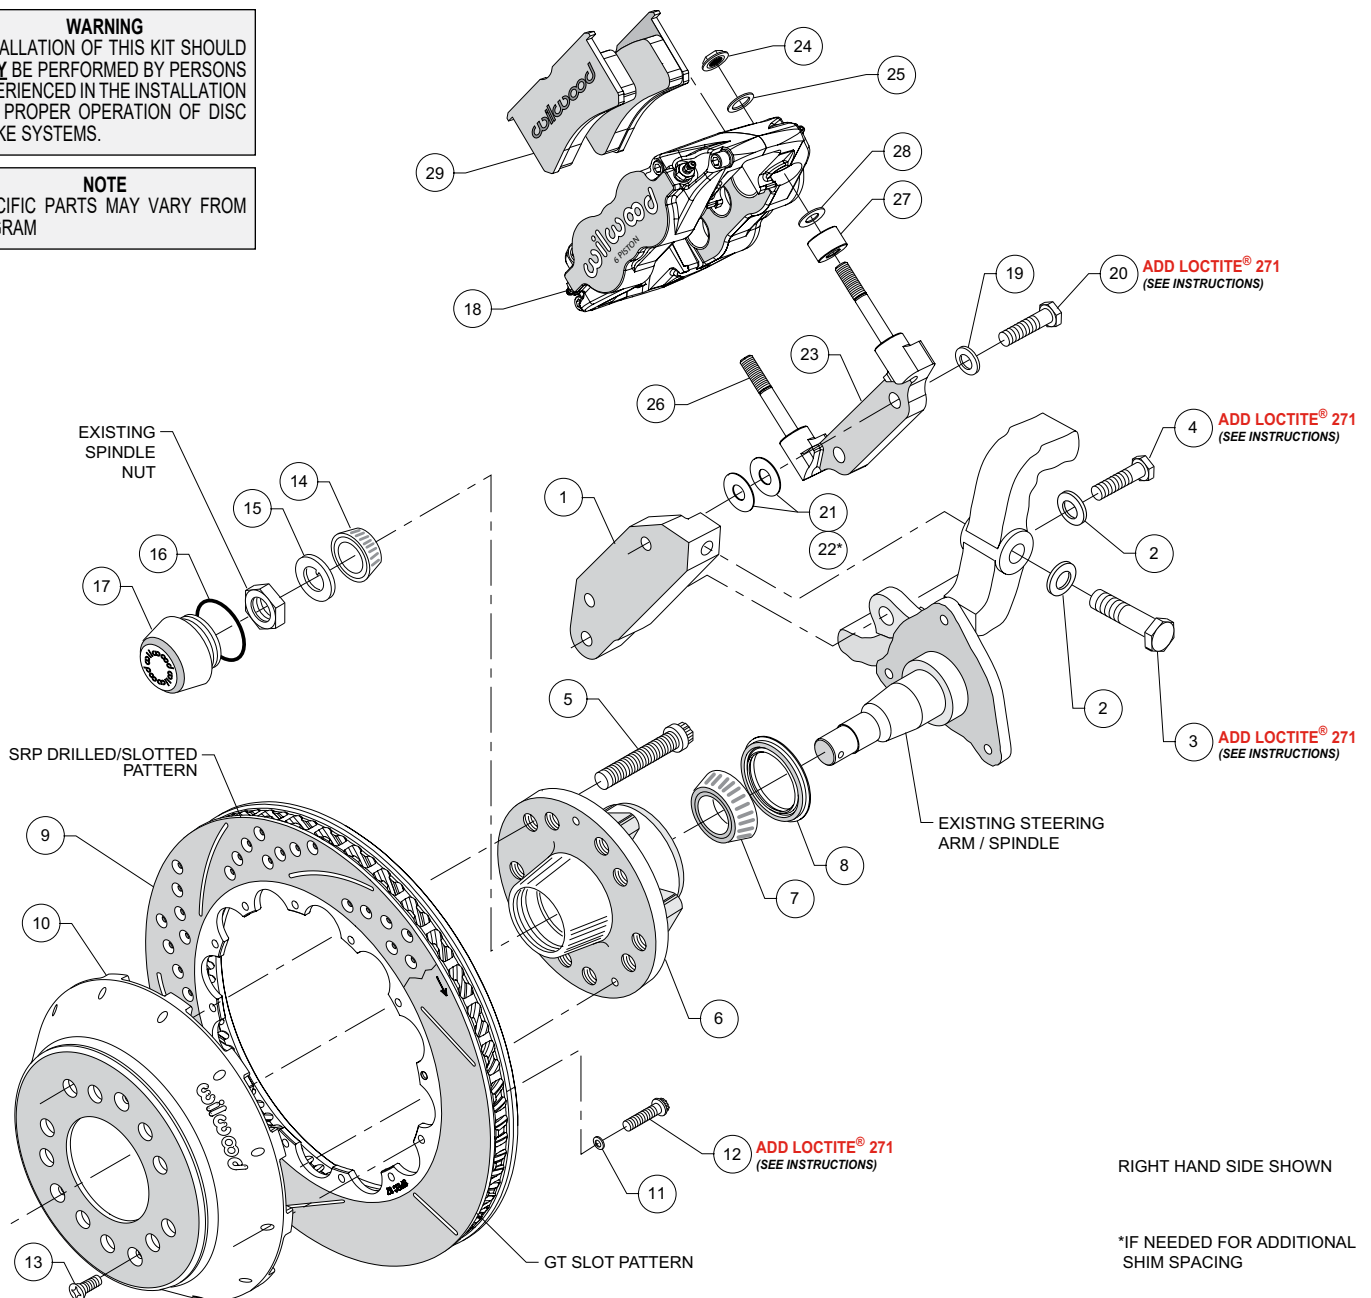
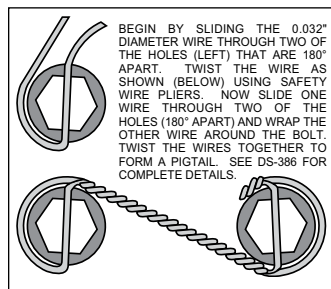

Figure 1. Typical Installation Configuration
Figure 3.
**NOTE:** Numbers in parenthesis refer to the parts list and Figure 1 on the preceding pages.
- Orient the spindle mount bracket (1), as shown in Figure 1, and attach to the spindle using bolt (3) and washer (2) in the upper hole, and bolt (4) and washer (2) in the lower hole. The bracket must fit squarely against the spindle mount points. Inspect for interference from casting irregularities, machining ridges, burrs, etc. Remove bolts one at a time, apply red *Loctite*® 271 to the threads, and torque to 77 ft-lb.
- Install wheel studs (5) into the hub (6), Photo 1. Torque to 77 ft-lb. **NOTE:** There are two five lug patterns in the hub (5 x 4.50 and 5 x 4.75). Ensure the correct hub stud pattern is being used to fit the wheel application.
- Pack the large inner bearing cone (7) with high temperature disc brake bearing grease (available from your local auto parts store) and install into the backside of the hub (6).
- Install the grease seal (8) by pressing into the backside of the hub (6), flush with the end of the hub, Photo 2.
- Pack the small outer bearing cone (14) with high temperature disc brake bearing grease and install into front of hub (6). Slide the hub assembly (6) onto the spindle. Secure using spindle washer (15) and OEM spindle nut, Photo 3. Adjust bearings per OEM specifications. Install saved OEM nut lock (if any) and a new cotter pin (not included).
- Screw dust cap (17) onto hub (6). Friction created by the o-ring (16) on the dust cap (17) keeps it from unscrewing. **NOTE:** The O.D. of the existing OEM spindle washer may be larger than the I.D. of the dust cap not allowing it to seat against the hub face. Therefore, use the spindle washer (15) supplied with the kit instead of the OEM washer.
- Orient the rotor (9) and the hat (10) as shown in Figure 1 and Photo 4. Attach rotor to hat using bolts (12) and washers (11). Apply red *Loctite*® 271 to the bolt threads and torque to 155 **in-lb** using a criss-cross pattern. For an added measure of security, the bolts may be safety wired using standard 0.032 inch diameter stainless steel safety wire as shown in Figure 3. Refer to Wilwood's data sheet DS-386 (available at [www.wilwood.com/Pdf/DataSheets/ds386.pdf](http://www.wilwood.com/Pdf/DataSheets/ds386.pdf)) for complete safety wire installation instructions.
- Orient the radial mount caliper bracket (23), as shown in Figure 1, and mount to the spindle mount bracket (1) using bolts (20), and washers (19). Initially place two .030" thick shims (21) on each bolt between the two brackets. Temporarily tighten the mounting bolts. Later, after the caliper alignment has been checked, the mount bolts will be secured using red *Loctite*® 271.
- NOTE:** *This kit contains distinct right and left hand calipers that must be mounted in a specific direction, as described below.* Initially place spacer (27) and one .035" thick shim (28) on each stud (26) between the caliper and the bracket, as shown in Figure 1 and Photo 5. Mount the caliper (18) onto the radial mount caliper bracket (23) using lock nuts (24) and washers (25), Figure 1. Ensure that the caliper is mounted so the largest pistons are at the rotor exit end of the caliper, in relation to the direction of rotor rotation. Temporarily tighten the lock nuts and view the rotor through the top opening of the caliper. The rotor should be centered in the caliper, Photo 6. If not, adjust by adding or subtracting .030" shims (21), or adding .016" thick shims (22), as necessary between the radial mount caliper bracket (23) and the spindle mount bracket (1). Always use the same amount of shims on each of the two mounting bolts (20). Once the caliper alignment is correct, remove the bracket mounting bolts (20) one at a time, apply red *Loctite*® 271 to the threads, and torque to 47 ft-lb.